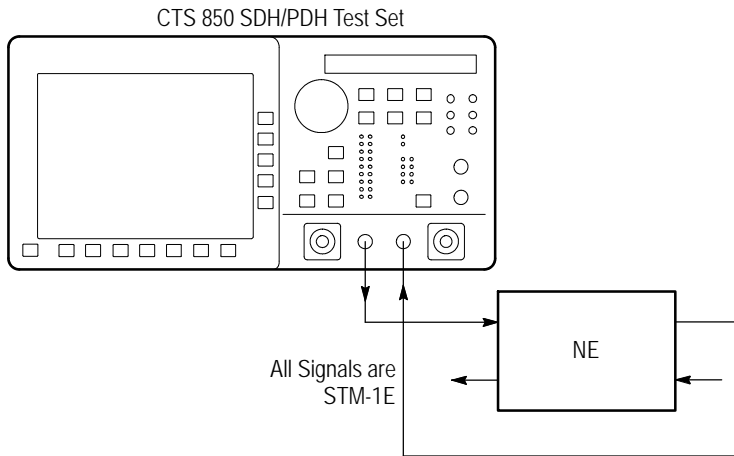

Figure 3 5: Setup to Check Pointer Movements
1. Connect the CTS850 to an NE as shown in Figure 3 5.